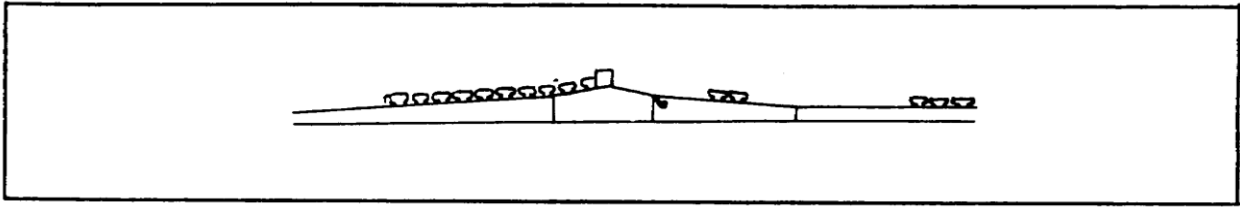
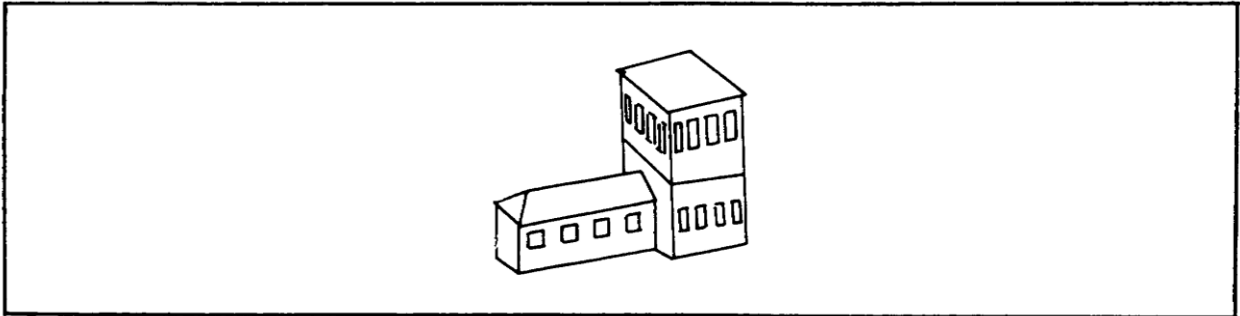

Figure 1-19. Hump.
Figure 1-20. Switch Tower.
6. Switch towers are used to control the right-of-way of railway traffic in rail yards and terminals. They are normally rectangular, two-story buildings situated so they can oversee the rail system. These switch towers operate the signal blocks and the switches along a congested right-of-way and in the railroad yards. The changing of switches is done either manually by the use of levers or automatically through an electrical control board. In large railroad yards, the classification of trains is done automatically by use of humps (Figure 1-19) and automatic switching controlled from the switch tower (Figure 1-20).